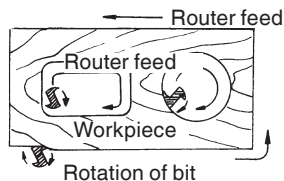

Fig. 16
- (2) The bit rotates clockwise (arrow direction indicated on the base). To obtain maximum cutting effectiveness, feed the router in conformance with the feed directions shown in Fig. 16.